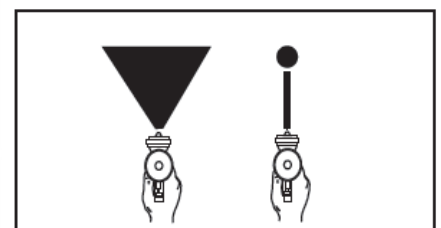

Figure 8. Fan adjustment.
2.Rotating the pattern adjustment control in will give you a range between the two patterns in Figure 8. .